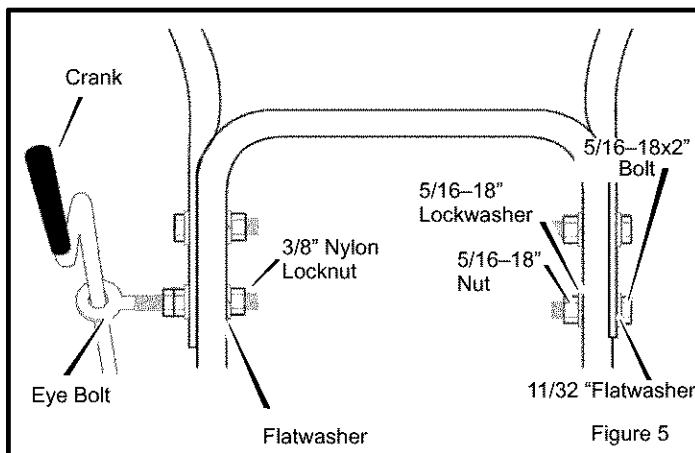

Figure 5
3. Install hardware supplied in the parts bag (bolt, flatwasher, lockwasher, and hex nut) into right lower hole of upper handle (See Figure 5). Do not tighten until all bolts are in place.
7. Install the eye bolt through the lower hole on the left hand side of the handle. (See Figure 5).